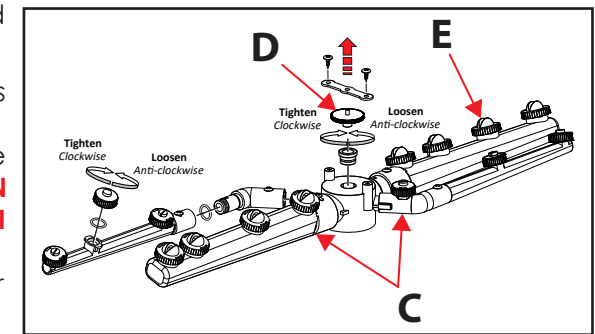

Fig.3
9. Remove the fixing screw (D) to remove the wash arms. Check that the nozzles (E) on the wash arms (C) are not blocked. The nozzles and wash arms can be removed for cleaning. See Fig.3
11. Reassemble the parts by attaching the wash arms firmly in place on the assembly (the wash arms (C) must be installed with the correct axial angle). Take care when attaching the nozzles (E) onto their correct positions on the wash arms. Reinstall the wash arm assembly using the fixing screw (D).